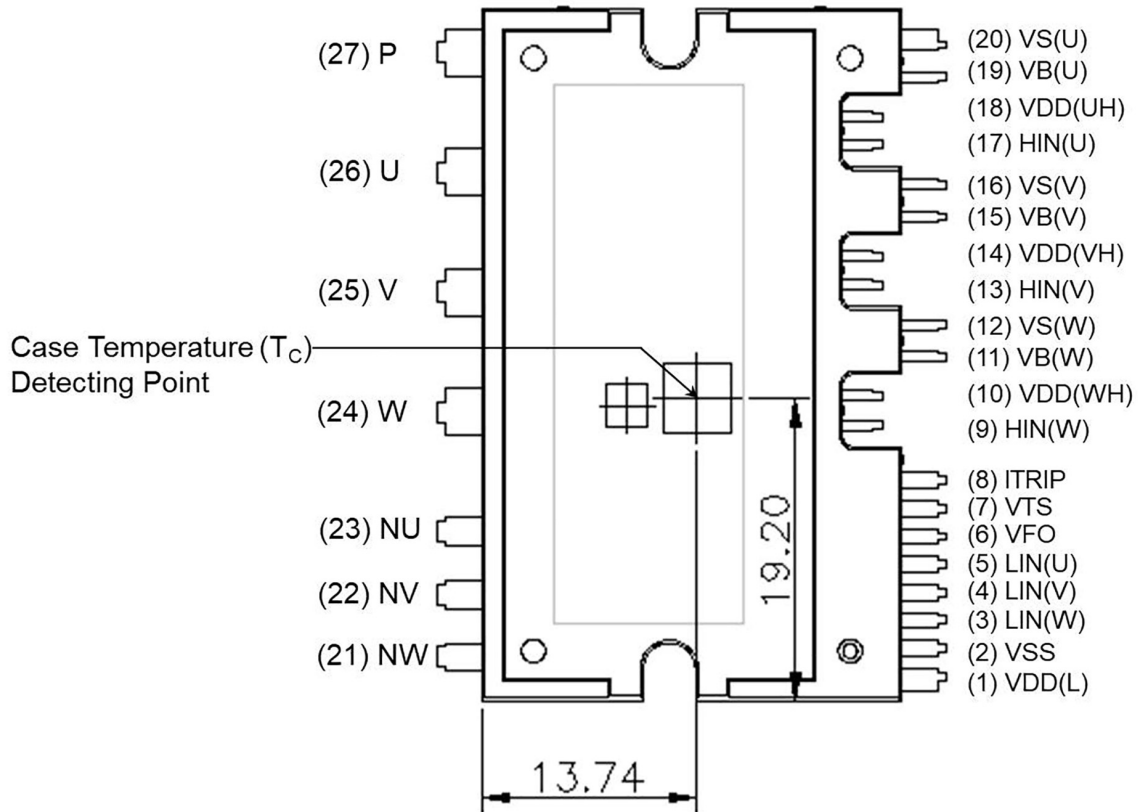

Figure 1. Pin Configuration
- 1200 V – 25 A IGBT inverter for three-phase DC / AC power conversion (Please refer to Figure 1)